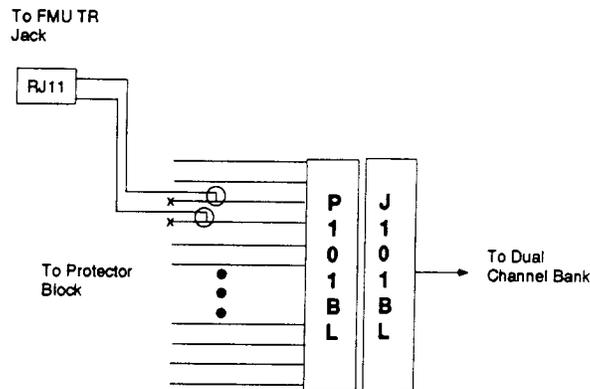

Figure 1 — ED-7C728-30 FMU Line Cable Connections
4. Use *Scotchloks* to connect the ED-7C728-30 cable for the FMU to orange/white pair between P101BL and the protector block (see Figure 1). Maintain the Tip/Ring polarity.